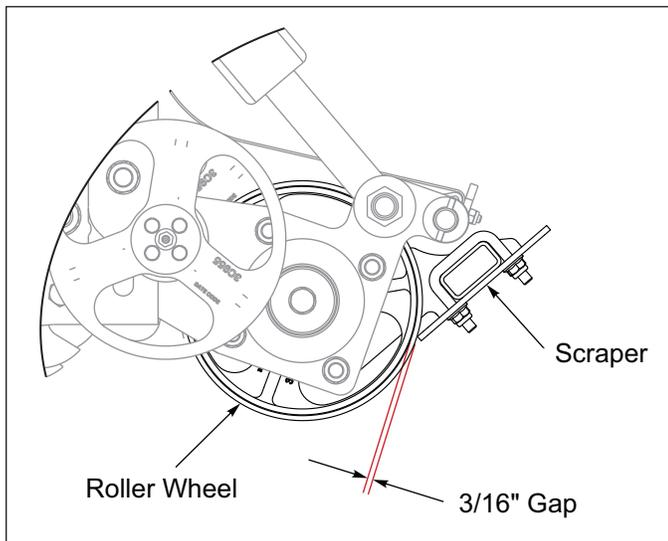

Figure 3-22: Rear Firming Roller Scraper Adjustment
2. Adjust Scrapers to 3/16" gap between the Scraper and Firming Roller Wheels. **See Figure 3-22.** The 3/16" gap is just a starting point, adjust the Scrapers as necessary.